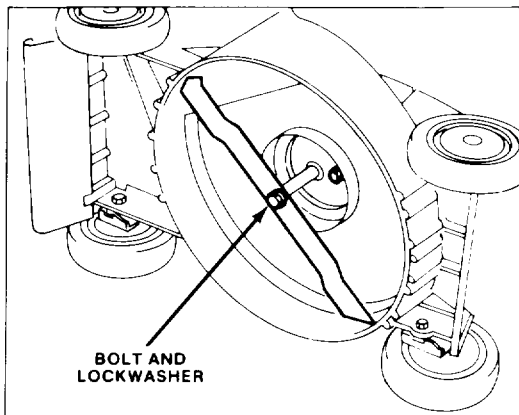

Figure 16
3. Tip mower on its left side (Fig. 16). Avoid rotating blade. Starting problems may result.
5. **REMOVING BLADE** — Grasp end of blade using a rag or thickly padded glove. Remove blade bolt, lockwasher and blade (Fig. 16).